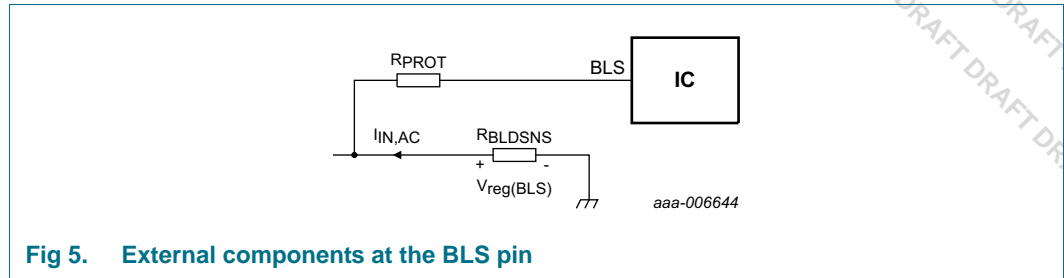

Fig 5. External components at the BLS pin
- A weak bleed current is generated to keep the dimmer in conduction when triggered. The generation of the weak bleed current is achieved when the total current to the dimmer is fed through a sense resistor R_{BLDSNS} (see Figure 5). The resulting voltage is measured at the BLS pin. A control loop in the IC uses this voltage to drive the external bleeder stage. The resulting bleeder current adds to the converter current so that the total current drawn by the application is kept constant.